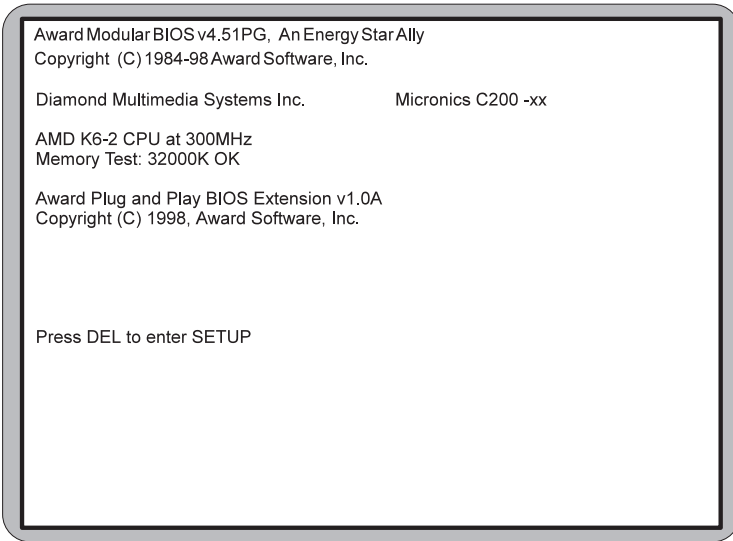

Figure 1.1: Power-Up Screen
9. Turn the computer on and press the **<DEL>** key when you see the screen shown in Figure 1.1.